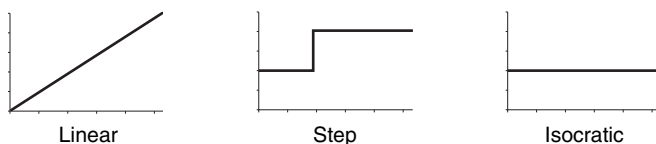

Figure 2-8 Gradient types
**Gradient Method** – Select the standard gradient type (Figure 2-8).